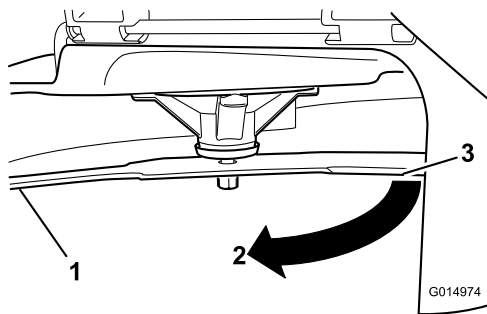

Figure 51
3. Measured distance between blade and the surface (A)
4. Rotate the same blade 180 degrees so that the opposing cutting edge is now in the same position (Figure 51).